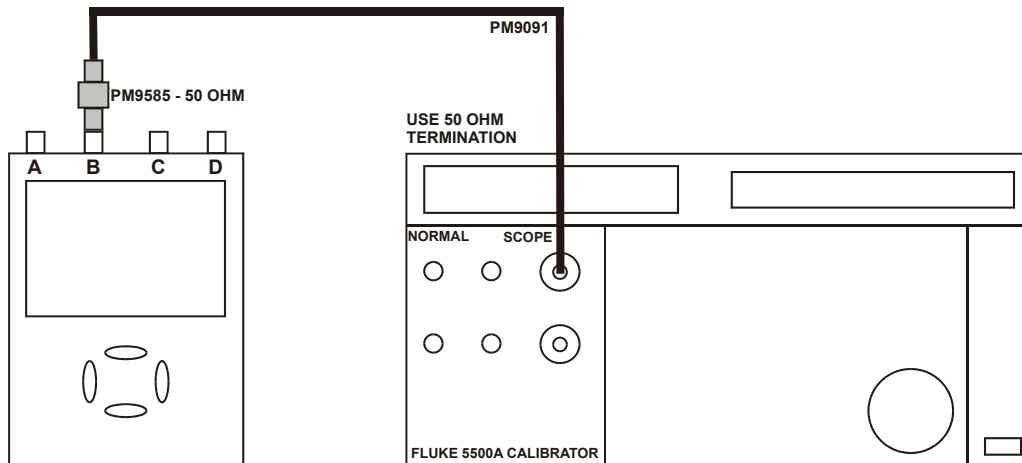

Figure 5-4. 5500A SCOPE Output to Test Tool Input B
2. Connect the Test Tool to the 5500A as shown in Figure 5-4.